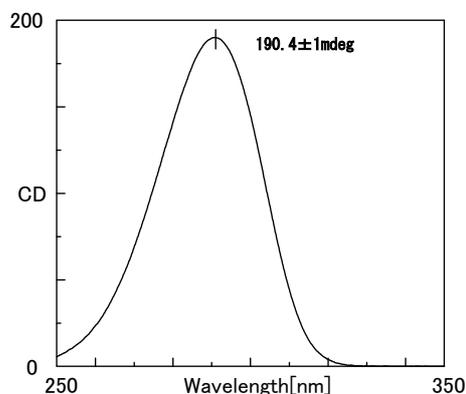

Fig. 4.12 CD spectrum of 0.06% ammonium d-10-camphor sulfonate
- (3) Fill the 10mm light path cell with 0.06% aqueous solution of ammonium d-10-camphor sulfonate (solvent : distilled water), and mount the cell in the sample chamber.
- (4) Select the [Start] command from the [Measurement] menu to make measurement.
- (5) Using the spectrum analysis program, confirm that the peak value of Channel 1 (Fig. 4.12) is  $190.4 \pm 1$  mdeg (291.0 nm). If the peak value does not fall within this range, adjust the instrument according to the following procedure.